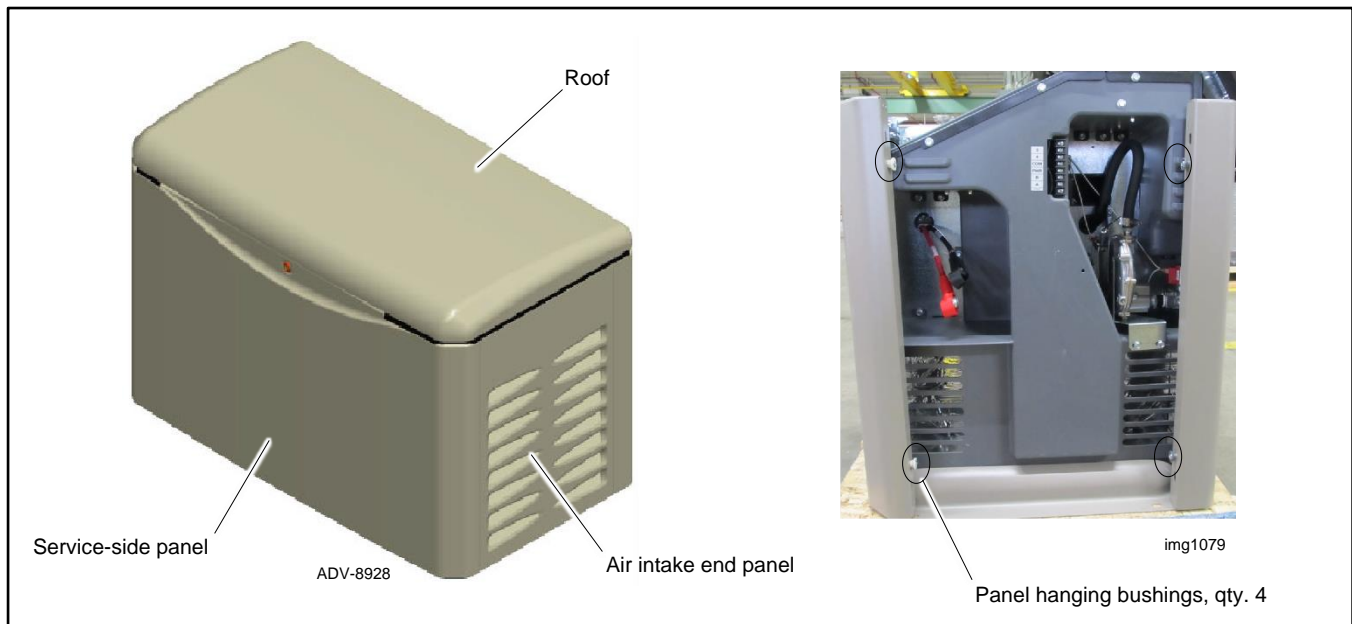

Figure 52 Removing the Air Intake Panel
3. Remove the air intake panel by pulling it up and off the four enclosure bushings. See Figure 52.